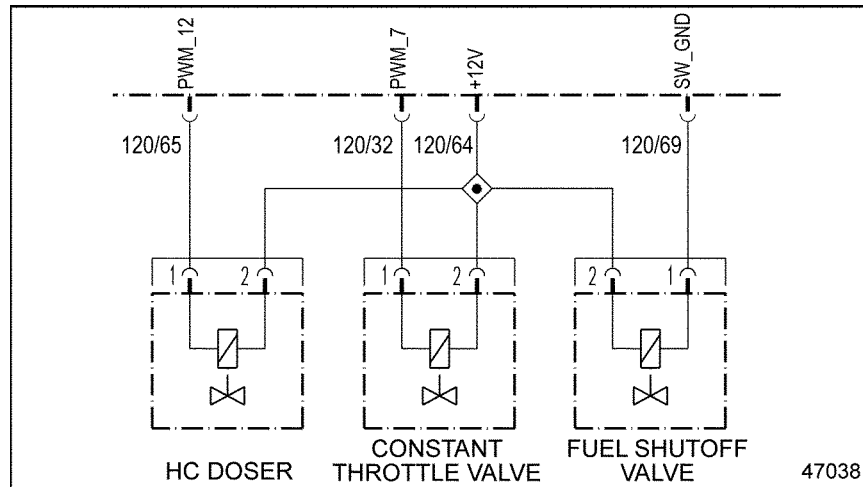

Figure 30-2 Constant Throttle Valve
- [a] If 3471/4 and 3482/4 are active with 701/4, repair the short to ground on pin 64 of the 120-pin MCM connector and pin 2 of the Constant Throttle Valve and pin 2 of the Electronic Dosing Valve connector and pin 2 of the Fuel Shutoff Valve. See Figure 30-2. Refer to section 30.2.1.1.
- [b] If the resistance is less than 5Ω , repair the short between wires 32 and 64 of the 120-pin MCM connector. See Figure 30-2. Refer to section 30.2.1.1.